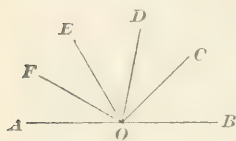

FIG. 14.
33. From the foregoing it will be evident that if a number of straight lines on the same side of a given straight line meet at the same point, the sum of all the angles formed is equal to two right angles, or 180° . Thus, in Fig. 14, angles $COB + DOB + EOD + FOE + AOF = 2$ right angles, or 180° .